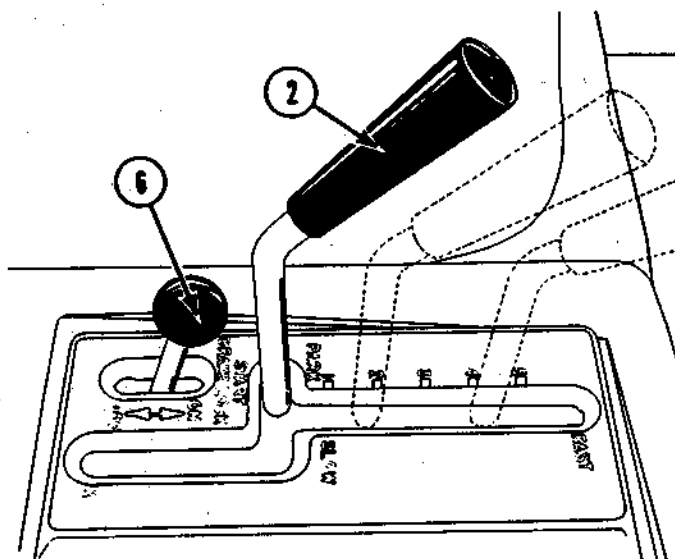
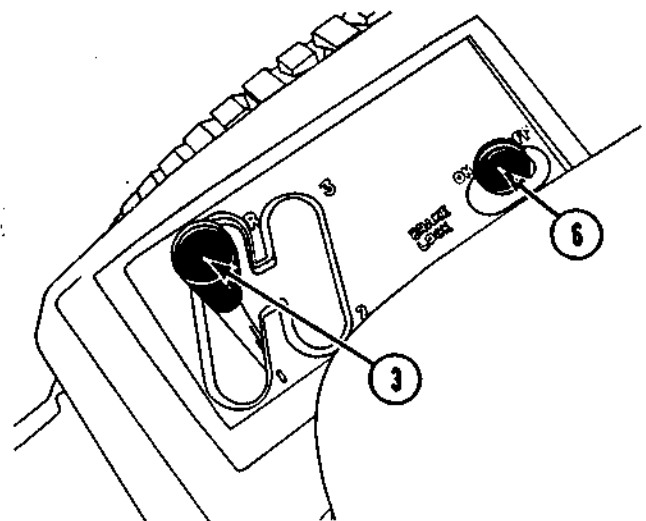

Figure 2
Figure 3
- ② **HYDROSTATIC CONTROL LEVER** (Hydrostatic Models – Figure 2)
- ③ **GEAR SHIFT LEVER** – (Gear Shift Models) – Figure 3.
**THE GEAR SHIFT LEVER MUST BE IN THE FORWARD NEUTRAL POSITION AS SHOWN IN FIGURE 3 TO START THE ENGINE.**
### BRAKE LOCK – Figures 2 and 3
To lock the brake, push the brake lock forward with the foot pedal fully depressed. Then release the foot pedal. Figure 2 shows the brake lock engaged. Figure 3 shows it disengaged.
2. **HYDROSTATIC MODELS.** Place hydrostatic control lever (2) in the "park-start" position as shown in Figure 2.
3. **GEAR SHIFT MODELS.** Place gear shift lever (3) in the forward (neutral) position as shown in Figure 3.